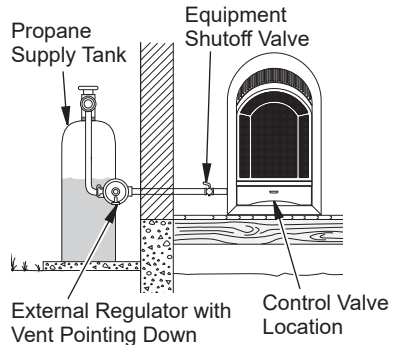

Figure 16 - Checking Gas Joints for Propane Gas
3. Check all joints from gas meter to equipment shutoff valve for natural gas or propane supply to equipment shutoff valve for propane (see Figure 16 or 17). Apply a noncorrosive leak detection fluid to all joints. Bubbles forming show a leak.
4. Check all joints from equipment shutoff valve to control valve (see Figure 16 or 17, page 14). Apply a noncorrosive leak detection fluid to all joints. Bubbles forming show a leak.